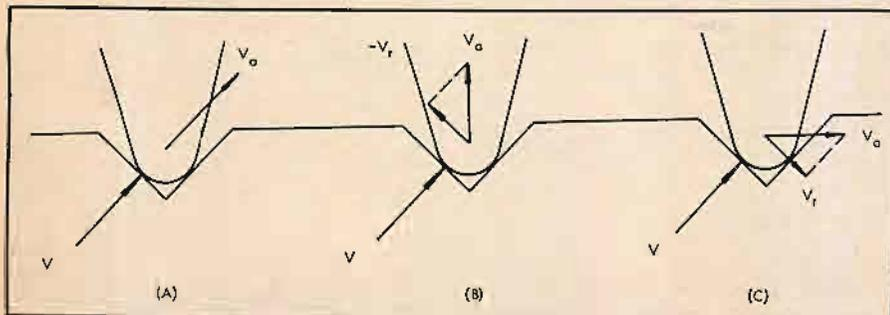

Fig. 6. Crosstalk conditions for different arm resonances.
The low-frequency sweep is ideal for detecting and remedying any arm resonance that may be present. The principle is illustrated in Fig. 6, by the vector velocities acting on the stylus under
three conditions of arm resonance. Symmetrical resonance is shown (A) of Fig. 6. Here the resonance generates a velocity, v_a , which is additive with say, the left modulation velocity, v_l ; since no crosstalk velocity is generated, separation is unaffected: Symmetrical resonance shows up as a peak or dip in the main channels. In (B) of Fig. 6 a condition of vertical arm resonance is illustrated: Here the arm velocity, v_a , at resonance produced by the modulation velocity, v_l , introduces a component of crosstalk velocity, $-v_c$. This will result in a loss of channel separation. (C) of Fig. 6 shows the effect of horizontal or torsional arm resonance: Again the velocity v_a introduces a crosstalk velocity component, v_c . Torsional resonances, often have a high "Q" and the loss of separation may be in the form of sharp "peaks" in the crosstalk channel graph. These often go undetected by the spot-frequency test, but are clearly evident with the sweep-tone test.